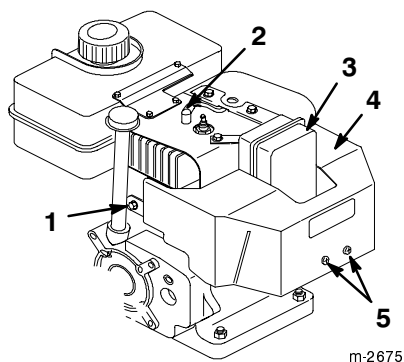

Figure 24
If you operate the engine when the air temperature is above 40°F (4°C), remove the carburetor heater box (Fig. 24).
1. Disconnect the wire from the spark plug and make sure that the wire does not contact the plug (Fig. 24).
4. Remove two Phillips screws, two hex head screws, and one lock washer that secure the carburetor heater box in place (Fig. 24).
8. Connect the wire to the spark plug (Fig. 24).